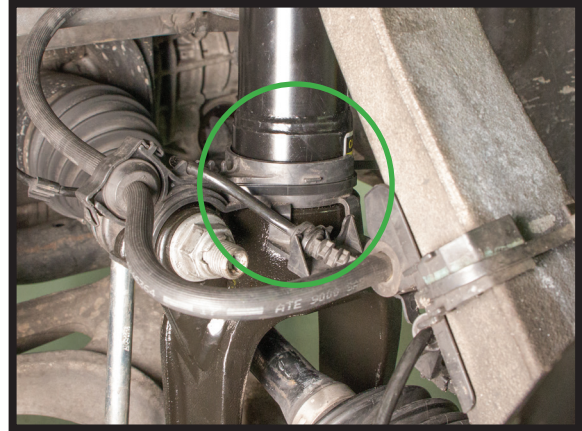

FIGURE 10
4. USING THE SUPPLIED CABLE TIE, SECURE THE WIRE HARNESS MOUNT TO THE SHOCK. (FIGURE 10)